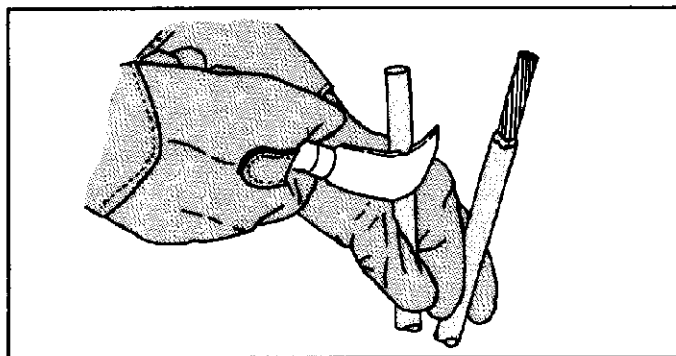

Figure 3
- (a) Strip each conductor, as shown in Figure 3, to strip length specified in Figure 2 (do not over-strip), and use wire brush to thoroughly clean exposed conductor.